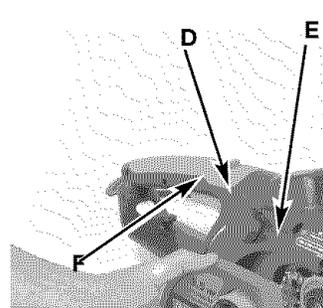

Fig. 20A
1. Install bar and chain on to power unit. Turn the tension plate (D) counter-clockwise until chain fits around sprocket (F) and guide bar (E) (Fig. 20A).